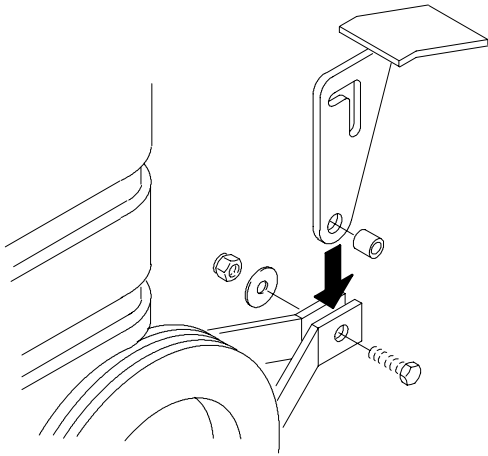

FIG. 3
8. Insert spacer through hole in pedal as shown. Position pedal between two holes in bracket and slide hex head screw through bracket and pedal. Secure with washer and nut (Figure 3).